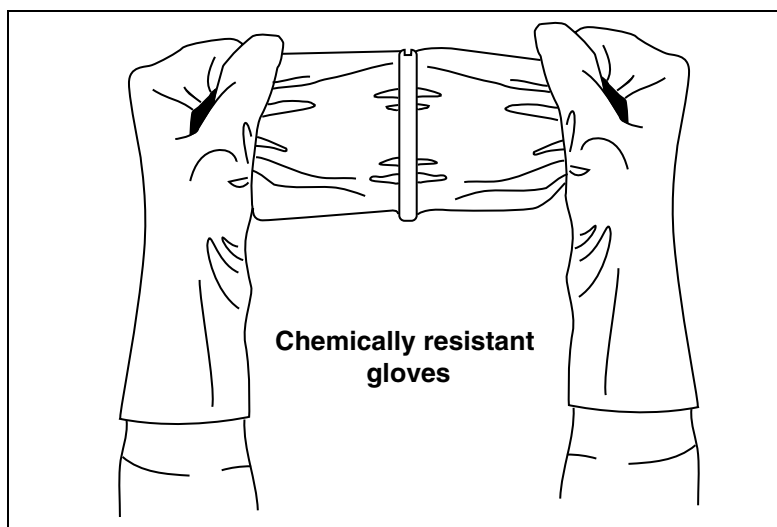

Figure 14. Removing Sealing Compound Clip
5. Remove bag of "Sealing compound" from foil package. Grasp the ends, one in each hand, then pull sharply to remove plastic clip [Figure 14].